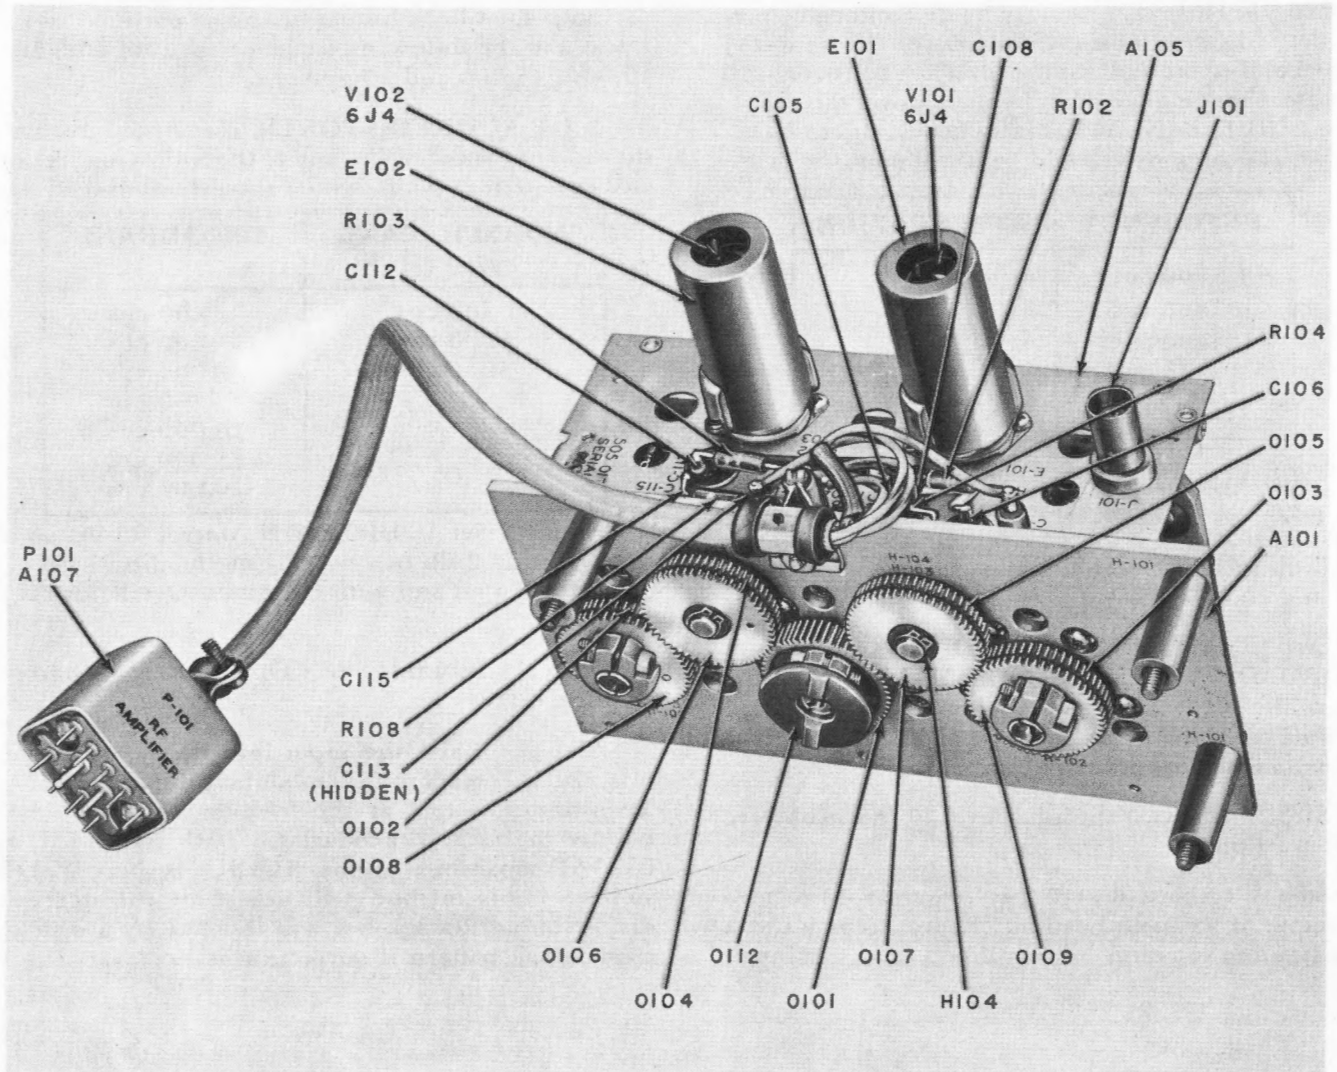

Figure 6-28. Radio Receiver R-278B/GR, R-F Amplifier, Top and Front View
Step 8. Disconnect antenna connector P1201 from J101 (figure 6-28).
Step 1. With red dot up, set the key of coupler 0112 (figure 6-28) in the vertical position.
Step 1. With the R-F Amplifier removed from the Receiver, remove the gears from the front of the R-F Amplifier by releasing three clamps from the drive gears and truarcs from the idlers (figure 6-28).